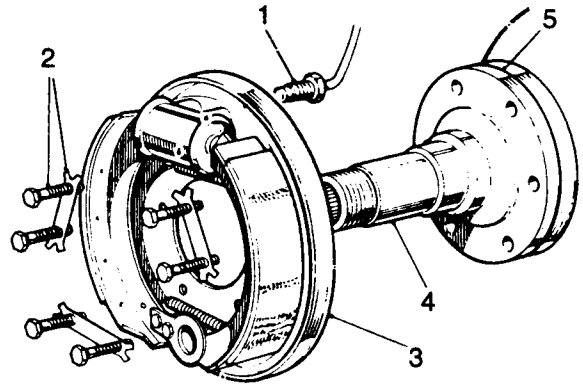

Fig J1.34
- (1) Refer to Fig J1.34. Grease and fit the joint washer (5).
- (2) Refit the stub axle (4).
- (3) Replace the anchor plate assembly (3).
- (4) Replace the brake anchor plate and stub axle fixings (2).
- (5) Refit the brake pipe (1) to the retaining bracket.
- (6) Replace the hub (see Sub-sub-section J1.4, Chapter 6).